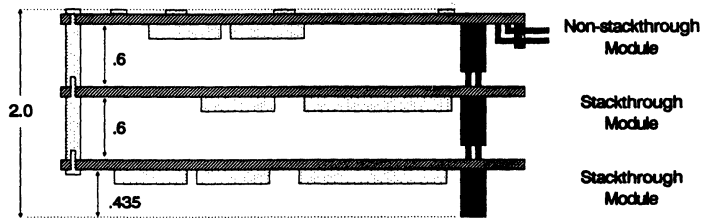

Figure 2. Standalone Module Stacks
- **Unique self-stacking bus.** Eliminates the cost and bulk of backplanes and card cages (Figure 2).
Standalone module stacks. As shown in Figure 2, PC/104 modules are self-stacking. In this approach, the modules are used like ultra-compact bus boards, but without the need for backplanes or card cages. Stacked modules are spaced .6 inches apart when installed. The three-module stack shown in Figure 2 measures just 3.6 by 3.8 by 2 inches. Companies incorporating PC/104 module stacks within their products frequently create one or more of their own "application-specific" PC/104 modules.